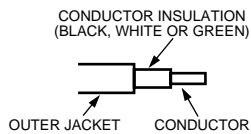

FIG. 1
3. Lay wire to be stripped against the strip gage on the GFCI cover and mark the strip length on the outer jacket. Carefully cut around the outer jacket and conductors, and prepare as noted in Fig. 1 and 2. Important: When cutting and stripping outer jacket, if accidental cutting of conductor insulation occurs, cut through injured cord and repeat instruction number 1.